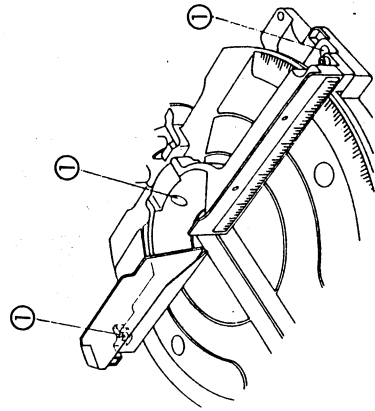

Fig. 11
3. If the blade does not contact the square, loosen the three screws ①. (Fig. 11)
Cutting Depth Adjustment (Fig. 11-a)